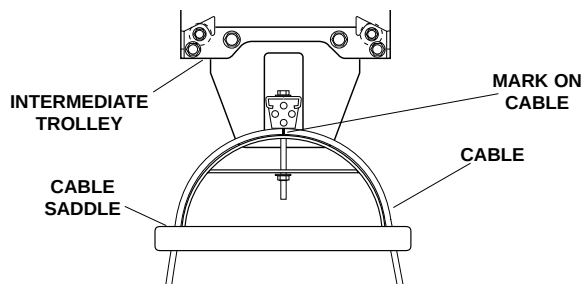

FIGURE 19-ALIGNING CABLE MARKS
4. Hang cable. All marks on cable must align with tops of saddles. See Figure 19. Arrange multiple cables per General Arrangement Drawing.
4. Hang cable. All marks on cable must align with tops of saddles. See Figure 19. Arrange multiple cables using guidelines above.